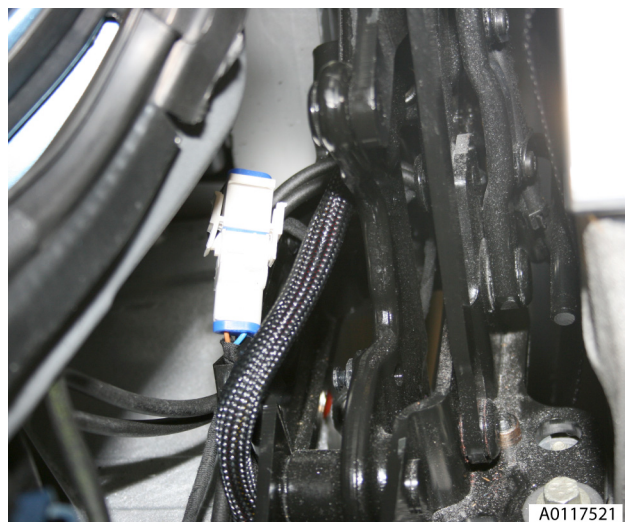

Fig. 9
22. Feed harness through to tonneau area by carefully guiding through roof mechanism and release string (see Fig. 9).